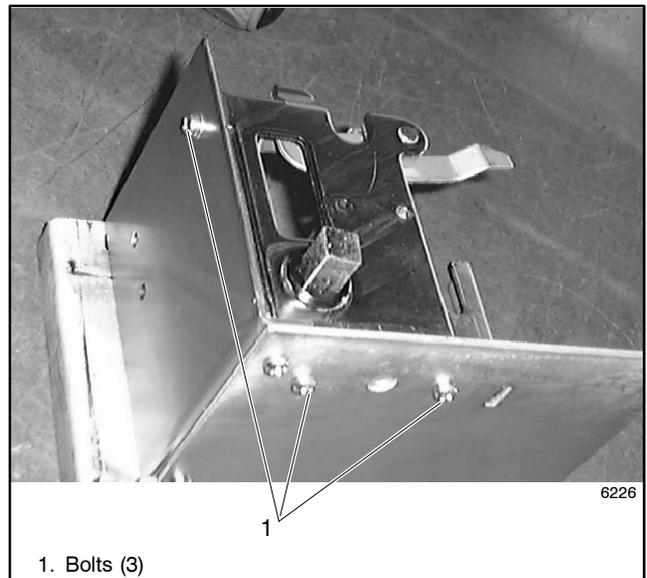

Figure 6-26 Side Plate Bolts
5. Loosen three bolts shown in Figure 6-26, remove the side plate, and replace the trip coil. See Figure 6-26.